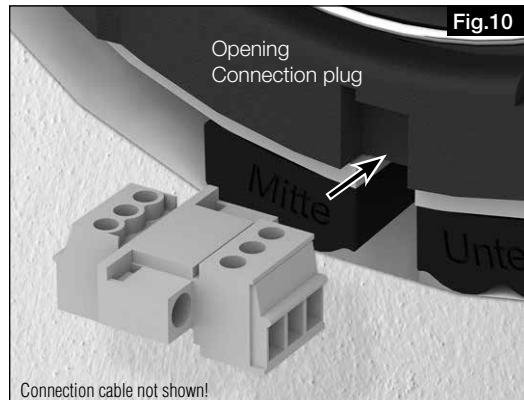

Fig.10
5. Connect the connection plug and plug into the opening on the unit (see Fig. 10)!